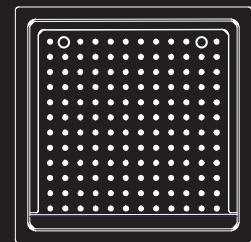

FIG 1
- ✓ Always use a full load of glasses and place the basket centrally onto The Airack (top is recessed for location – Fig 1).